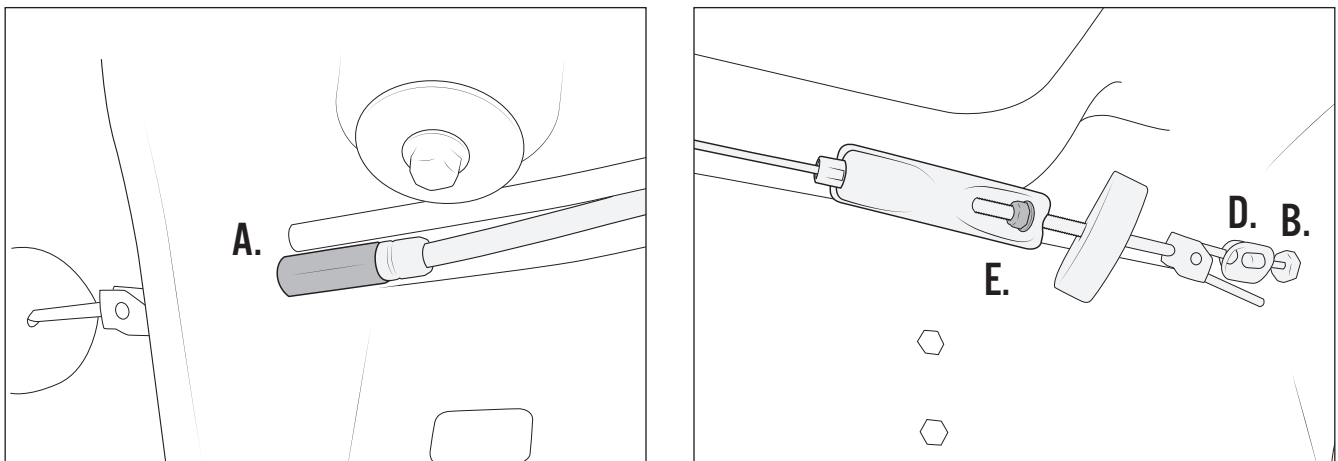

Figure 6
17. Install AEV parking brake line spacer (fig.6).